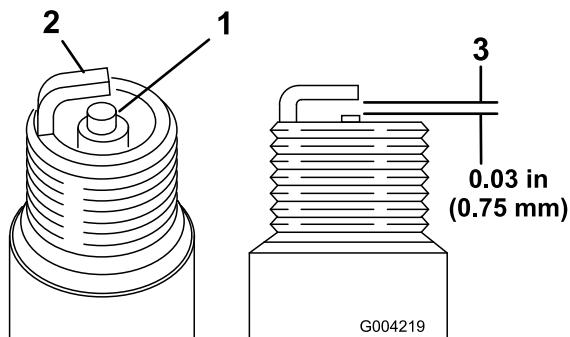

Figure 16
1. Look at the center of the spark plug (Figure 16). If you see light brown or gray on the insulator, the engine is operating properly. A black coating on the insulator usually means that the air cleaner is dirty.
2. Check the gap between the center and side electrodes (Figure 16). Bend the side electrode (Figure 16) if the gap is not correct.